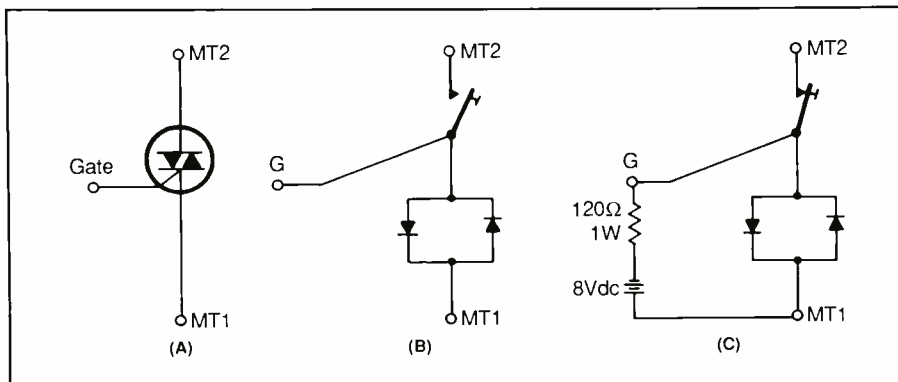

Fig. 4. Schematic symbol of triac (A) and simplified on (B) and off (C) models.
Shown schematically in Fig. 4(A), the triac combines the bidirectional properties of the diac with the breakover-voltage gate-control mechanism of the SCR. The three terminals of the triac are identified as main ter-
Continuous gate current is easily accomplished with a dc voltage (with a current-limiting series resistor) applied between the gate and MT1. This triggers the thyristor on for both halves of the ac line voltage. It permits the triac to function as an electronically controlled switch. Figures 4(B) and 4(C) illustrate the on and off circuit characteristics, respectively.